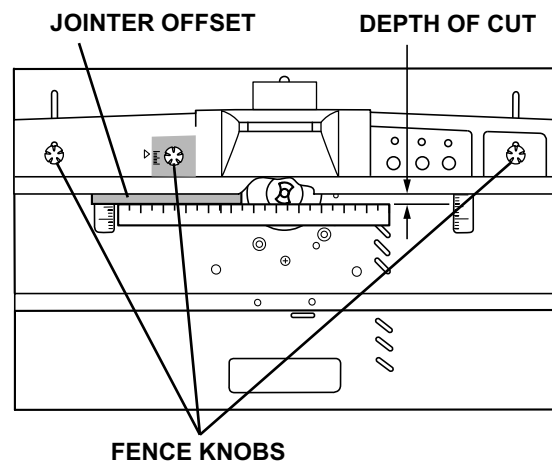

Figure 36
4. Slide jointer offset out until the straight edge touches the outside diameter of the router bit. See Figure 36.